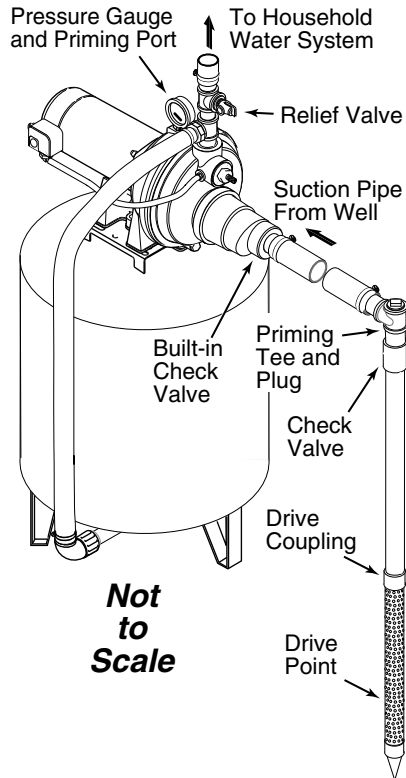

Figure 4 – Driven Point Installation
New Shallow Well, Driven Point Installation (Figure 4)
4. Use the fewest possible fittings (especially elbows) when connecting the pipe from the well point to the pump suction port. The suction pipe should be at least as large as the suction port on the pump (include a check valve – See Figure 4). Support the pipe so that there are no dips or sags in the pipe, so it doesn’t strain the pump body, and so that it slopes slightly upward from the well to the pump (high spots can cause air pockets which can air lock the pump). Seal the suction pipe joints with PTFE pipe thread sealant tape approved for use on PVC. Joints must be air- and water-tight. If the suction pipe can suck air, the pump cannot pull water from the well. If one well point does not supply enough water, consider connecting two or three well points to one suction pipe.